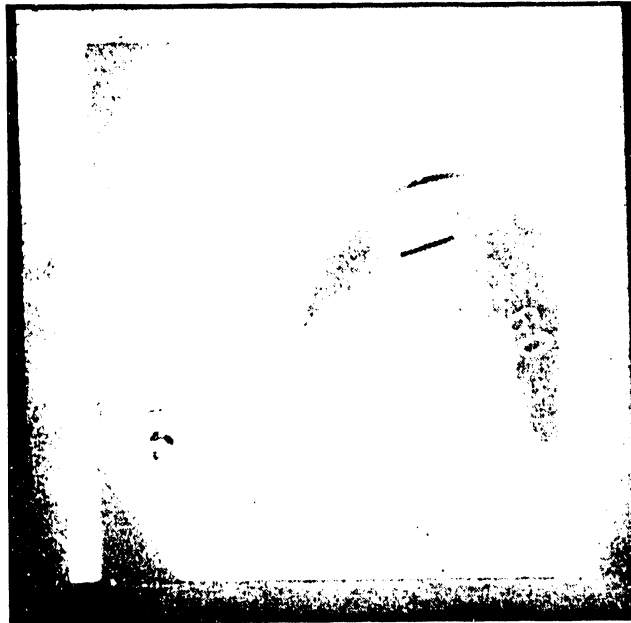

Figure 4-5. Quantum Drive Spindle Lock
3. On the right side of the drive, loosen the 11/32 inch hex nut securing the locking clip on the Quantum drive pulley (figure 4-5).